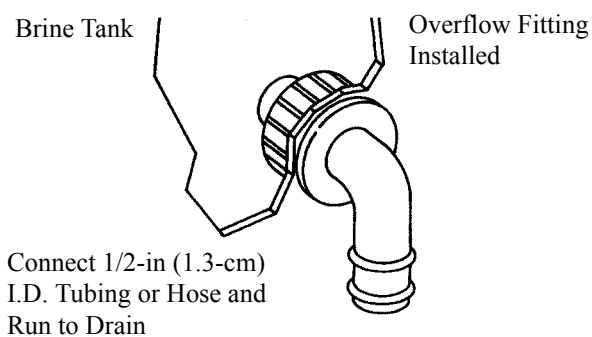

Figure 4
2. Insert the overflow fitting (not supplied) into the tank and tighten with the plastic thumb nut and gasket as illustrated in Figure 4.